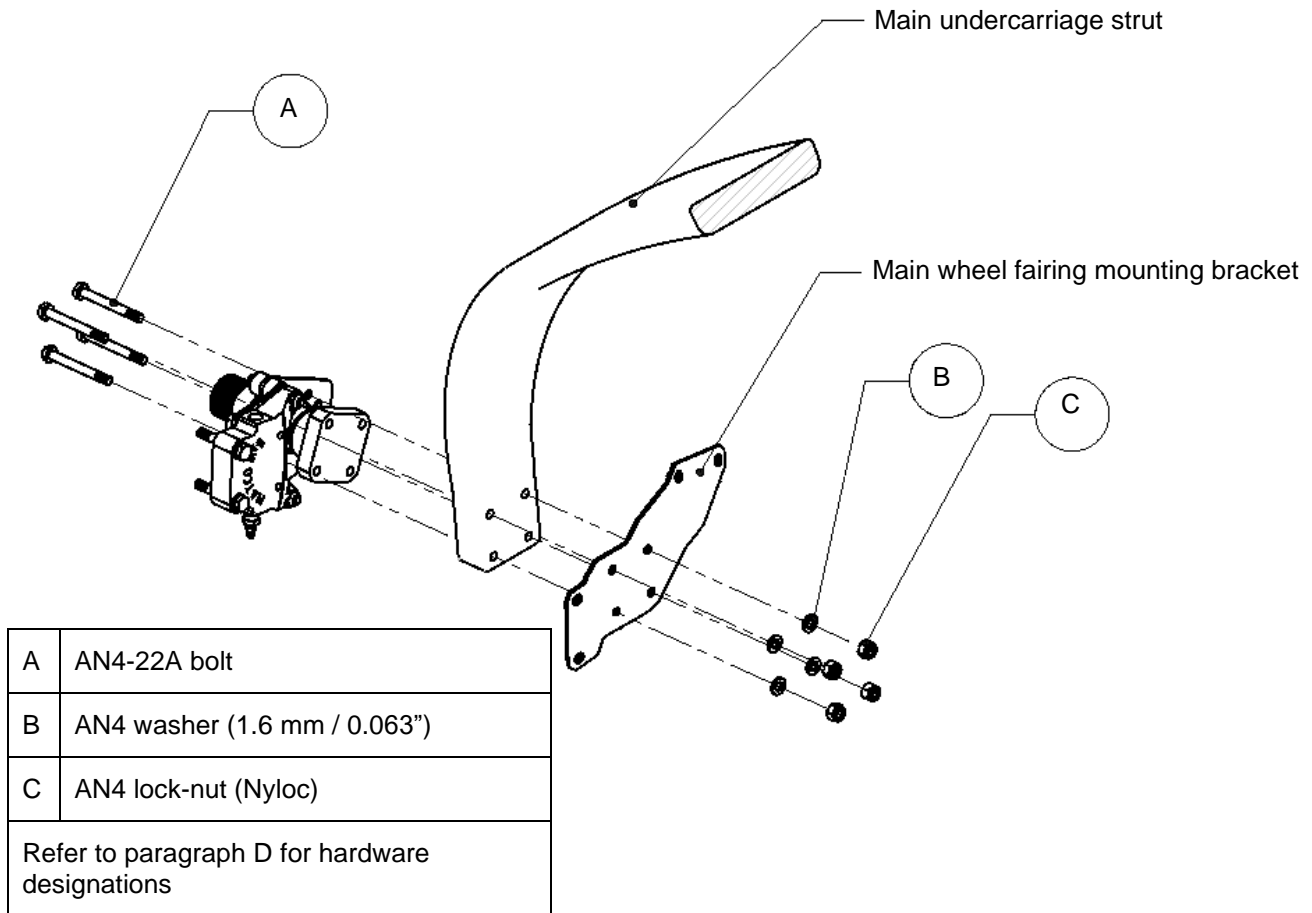

Figure 40: Main wheel axle installation.
- Tighten the lock-nuts and bolts mounting the axle, brake assembly and fairing mounting plate to the undercarriage strut sufficiently. Observe the correct placement of washers (refer to Figure 40) and note that the bolts are installed with their heads facing the wheel.